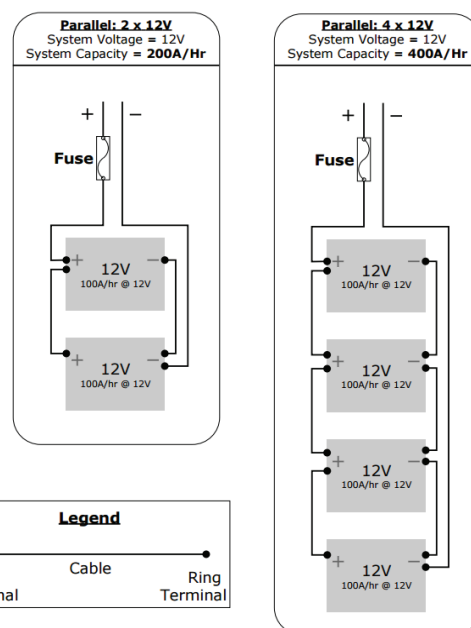

FIGURE 7
- If installing more than one battery, connect batteries together as shown to charge and discharge batteries evenly. (Figure 7)